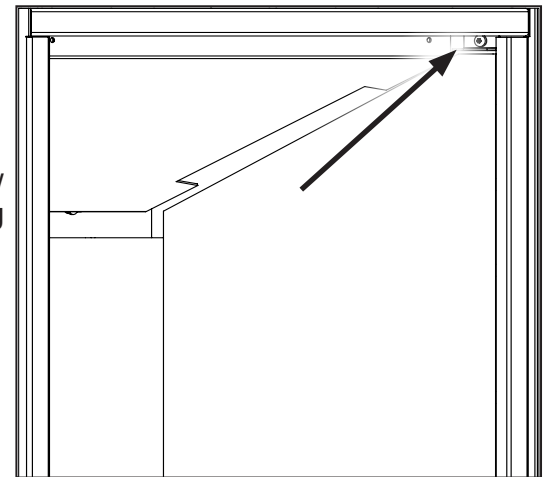

Figure 66: Top Retainer Brackets
3. Next, remove the top retainer brackets on each side as shown in Figure 66 using a T20 screwdriver.